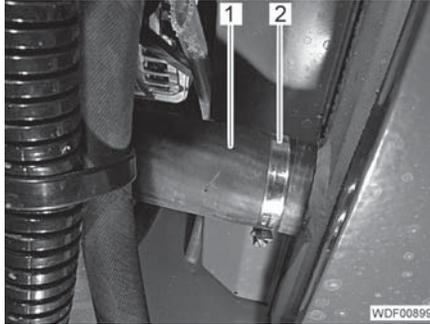

Fig. 82 Cooling hose (bottom)
- Attach the cooling hose (Fig. 82,1) to the radiator and tighten the hose clamp (Fig. 82,2).